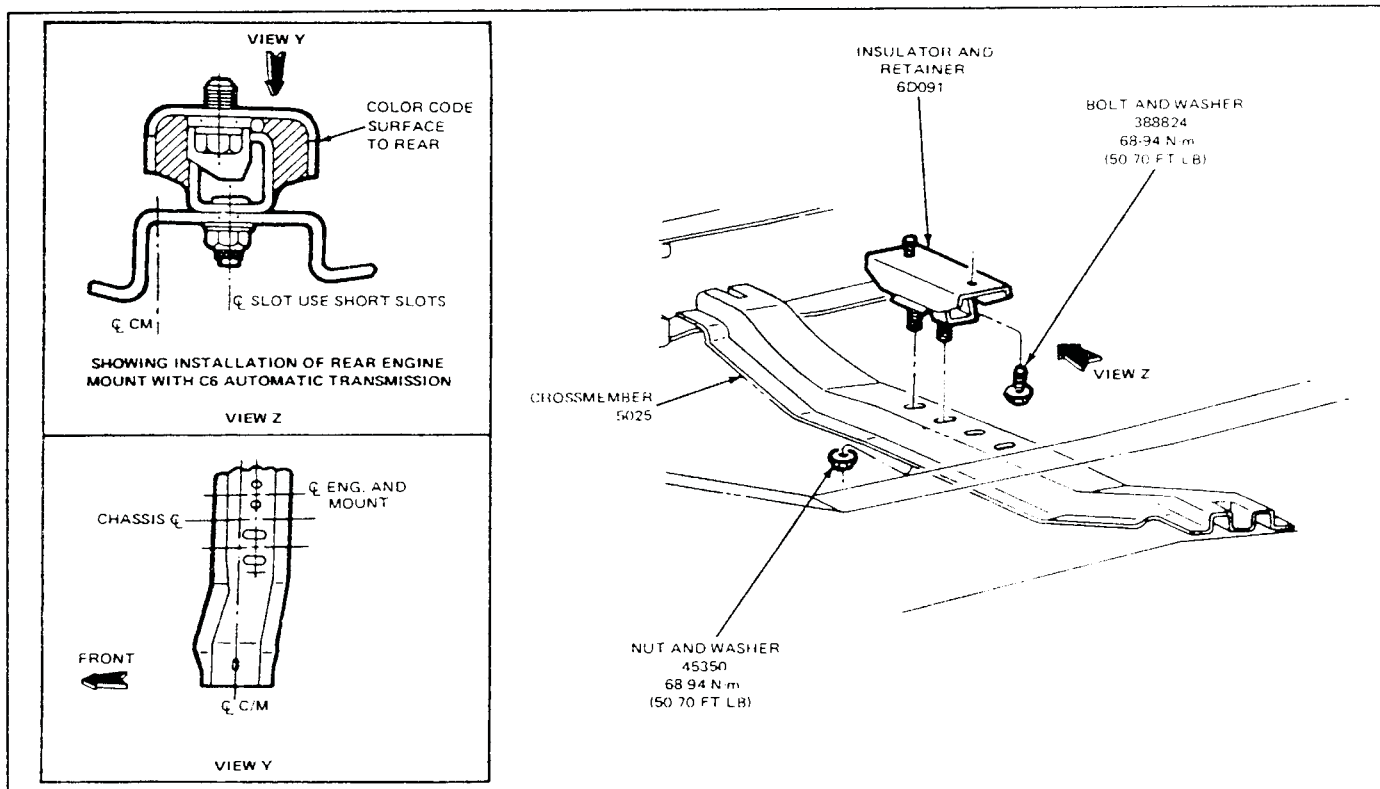

FIG. 9 Crossmember Installation—E-150—E-350
19. Remove the bolts and nuts securing the rear support and insulator assembly to the crossmember. Remove the six bolts retaining the crossmember to the side rails and remove the two support gussets. Raise the transmission with the jack and remove the crossmember (Fig. 9).